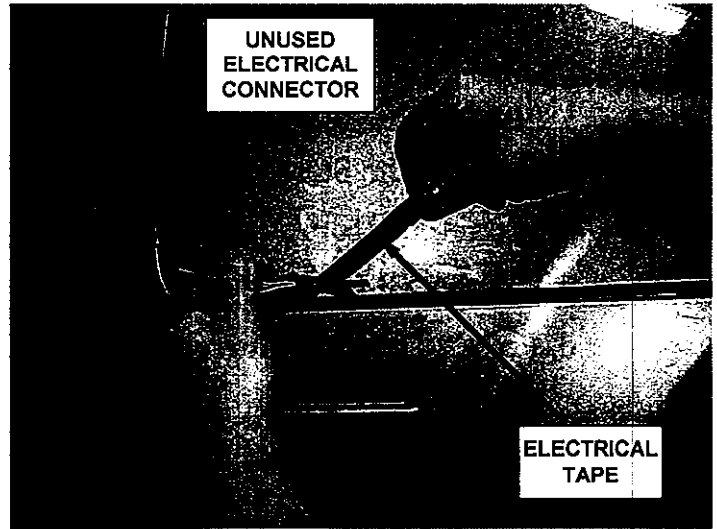

Figure 5 – Tape Wire to Harness
- 8. Using electrical tape, secure the sealed wire to the wiring harness (Figure 5).